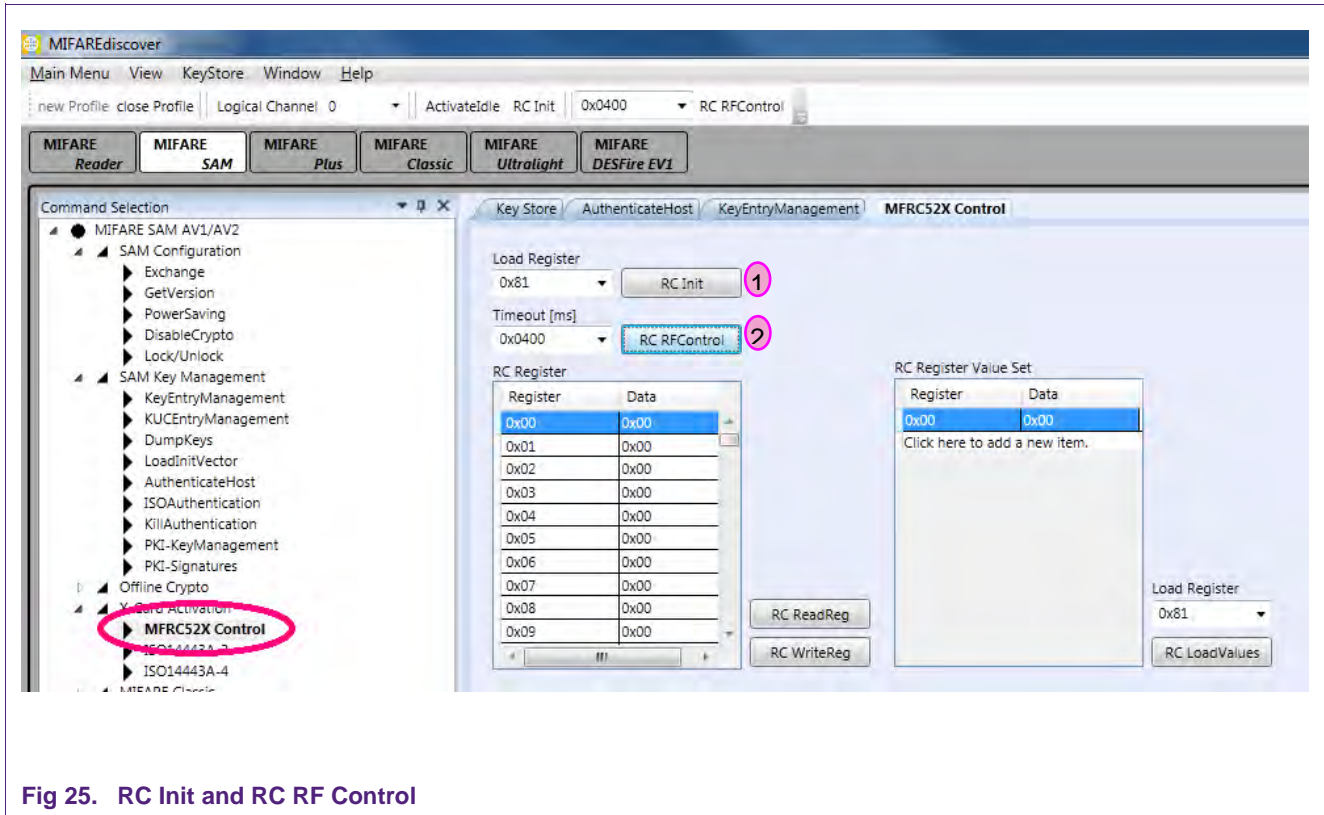

Fig 25. RC Init and RC RF Control
1. RC Init to initialize the I²C communication (shown in fig. 25).
2. RC RFControl to turn on the RF field (shown in fig. 25).